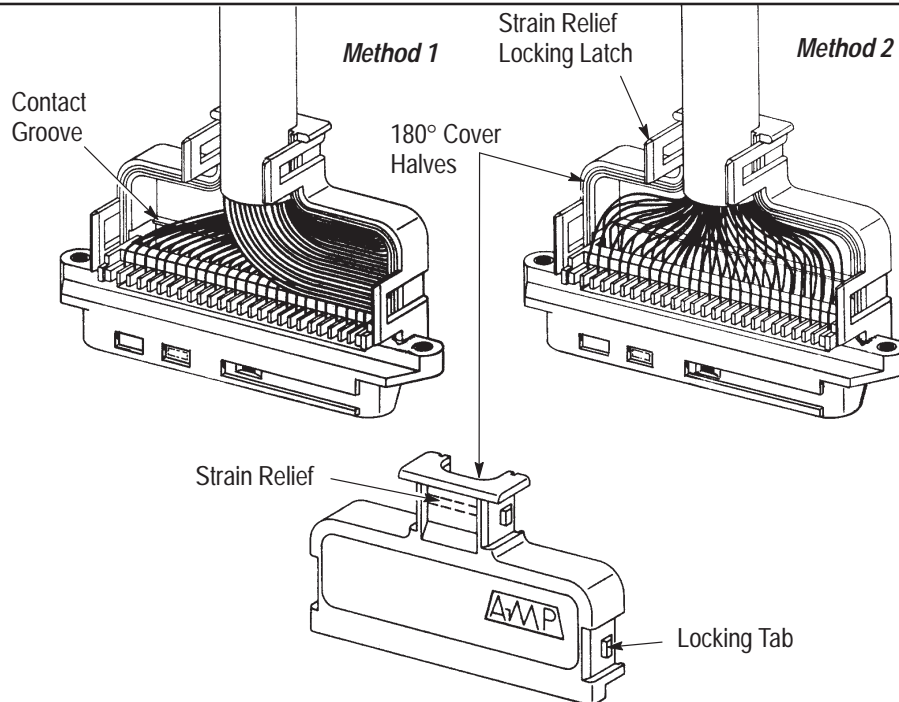

Figure 6
1. Gather the wires at the end of the connector that is nearest to the cable bundle. See Figure 6.
2. Place the cover half with the locking latches on one side of the connector, and make sure the contacts enter the contact groove. See Figure 6.